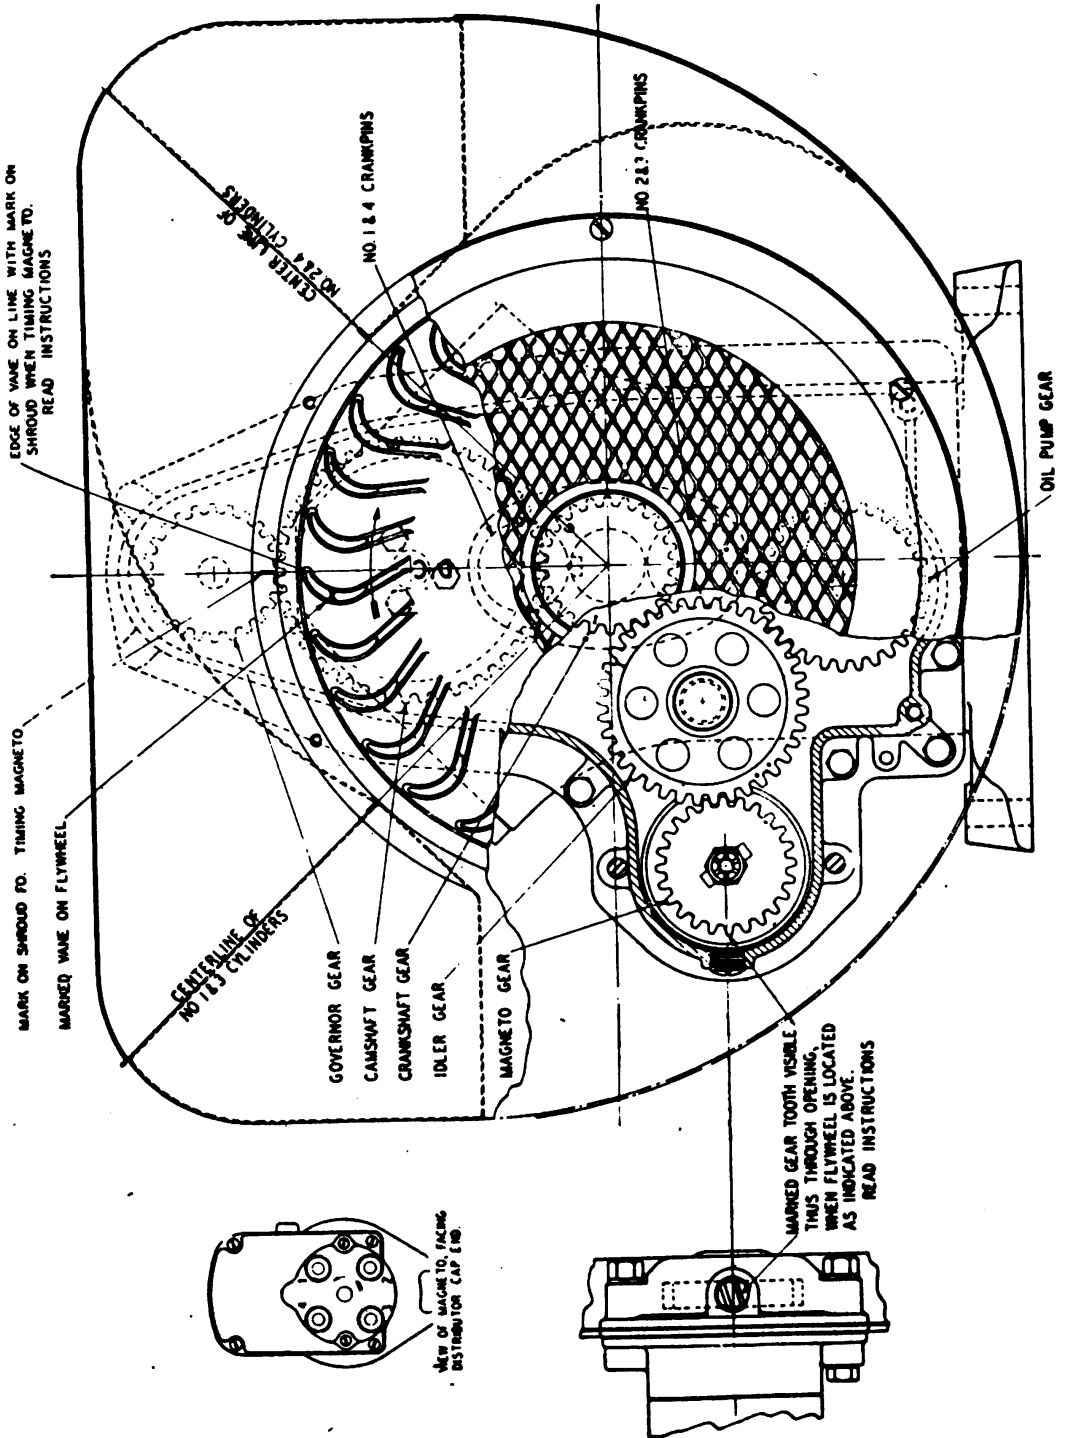

Figure 22.—Timing Diagram
*a.* First, remove the screen over the flywheel air intake opening by taking out the six screws holding the screen in place. This will expose the mark on shroud for timing magneto. See timing diagram, figure 22.
*c.* The flywheel is marked with the letters "DC" near one of the air circulating vanes. This vane is further identified by a mark cast on the end. (See figure 22). When the air blows out of No. 1 spark plug hole, continue turning the starting crank until the edge of the marked vane on the flywheel is on line with the top center. The keyway at take-off end of the crankshaft is also on top.
*d.* The magneto should then be fitted to the engine so that the marked tooth on the magneto gear is visible through the opening in timing gear housing as shown on timing diagram (figure 22). The distributor cap on the magneto is numbered from 1 to 4. The leads from the magneto should be connected to spark plugs of like numbers, according to the engine fire number.
marks on the gears line up with the marks as shown on timing diagram, (figure 22).